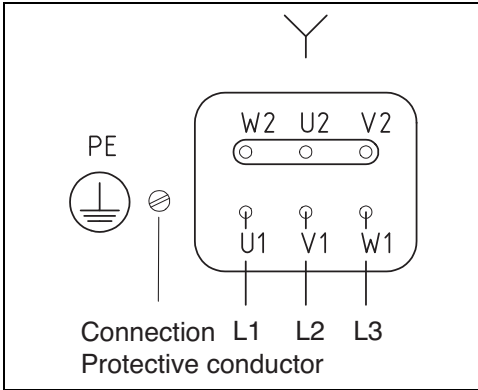

Fig. 46
- ▶ Connect the electric motor according to the specifications on the motor nameplate and check the jumpers on the terminal board (see Fig. 46).